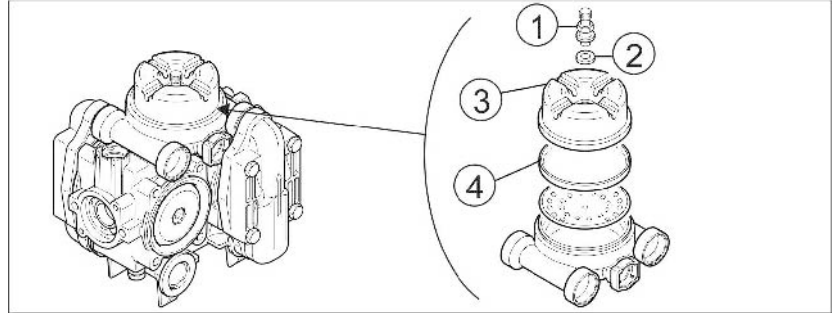

Fig. 203
- Clean the line filters (Fig. 203/1) 3 - 4 months depending on operating conditions).